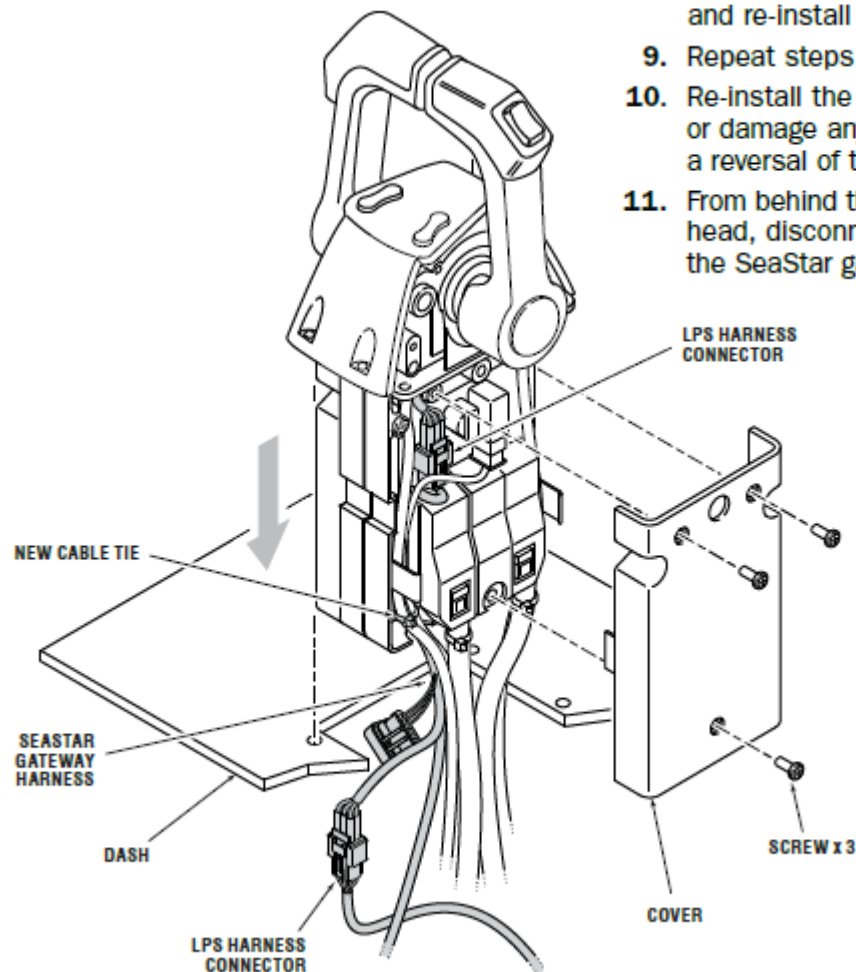

Figure 7-4. Cable tie and cover installation.
8. Install a new cable tie to secure the harnesses to the chassis and re-install the cover. (Refer to figure 7-4.)